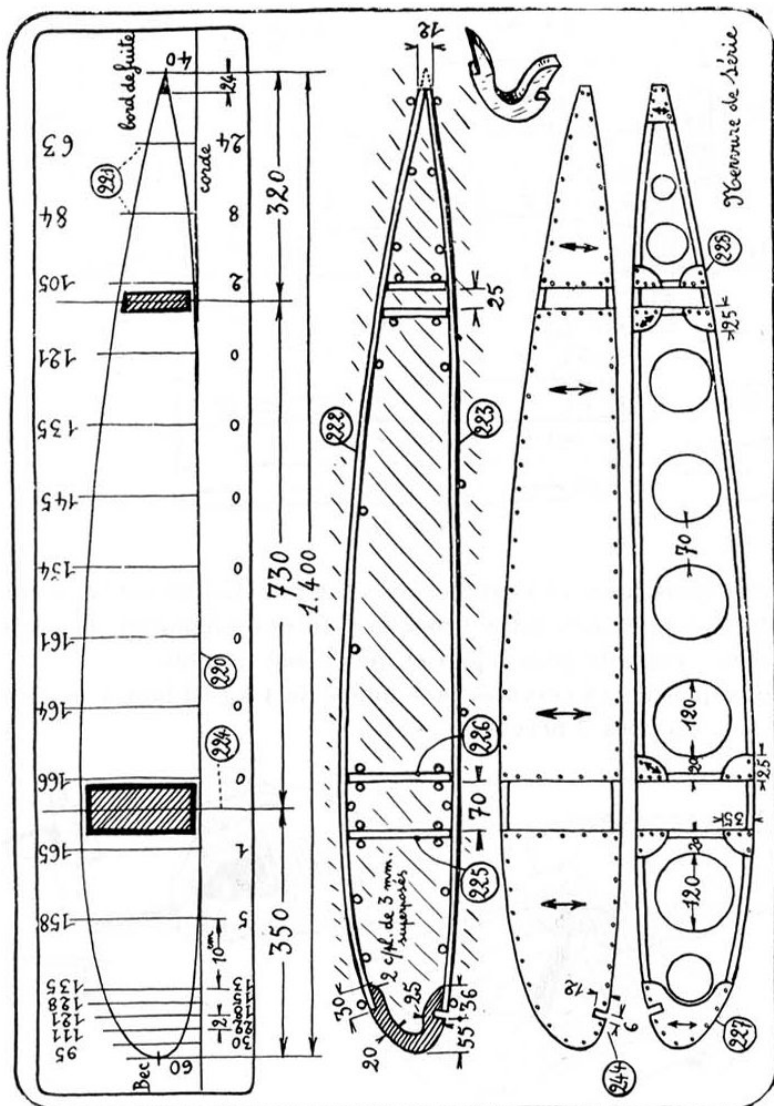

Figure 4.3: The standard rib pattern
Draw a straight line (220) (*fig. 4.3*) 50mm above the bottom edge.